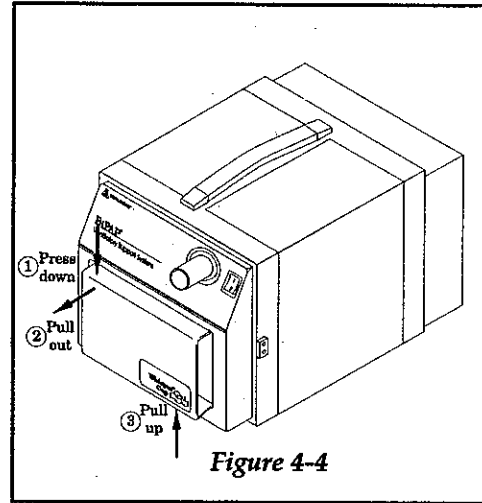
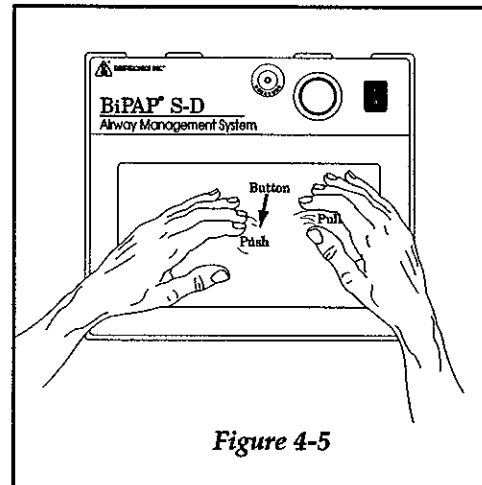

Figure 4-4
Figure 4-5
- Step 1** Turn the BiPAP unit OFF (0) and unplug the electrical cord from the wall outlet and from the back of the unit.
- Step 2** See Figure 4-4. Press down (1) and pull out (2) on the top of the Whisper Cap. You need to press down only about  $\frac{1}{8}$ " to allow the top lip of the Whisper Cap to clear the filter retainer.
- Step 3** Pull up (3) on the bottom of the Whisper Cap until the bottom lip clears the filter retainer.
- Step 4** See Figure 4-5. Locate the button in the center of the filter holder beneath the surface of the filter. Push in on the button and pull the filter out from all four sides of the filter holder.